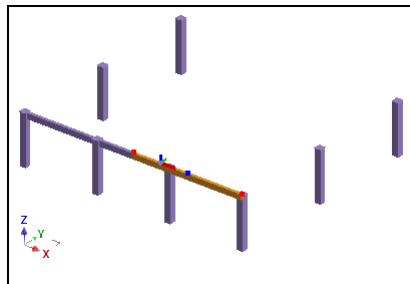

Figure 53: Selection of the first beam
1. Click a beam to select it (Figure 53).